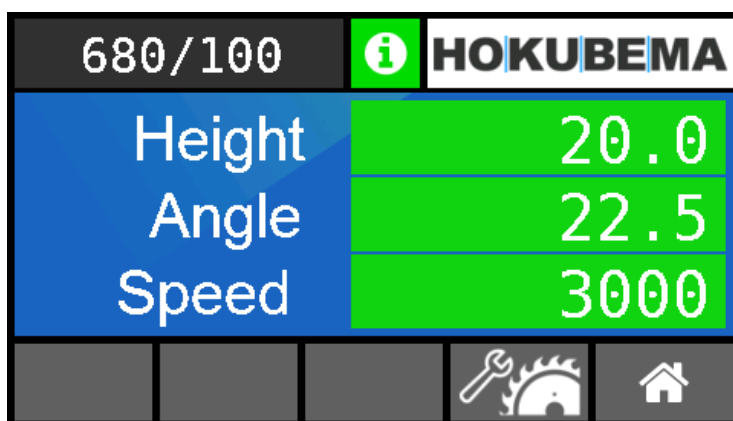

Figure 44: Machine overview - current positions and speed
- If the saw blade is incorrectly set, a value deviating from 50.0 mm (e.g. 50.5 mm) appears in the overview “Machine >> Height” (see ⇒ Figure 44) .
→ As confirmation, the screen jumps back to the overview (see ⇒ Figure 44).
- In the overview “Machine >> Angle” (see ⇨ Figure 44) a value deviating from 0.0° now appears (e.g. 0.4°).
- As confirmation, the display jumps back to the overview (see ⇨ Figure 44).